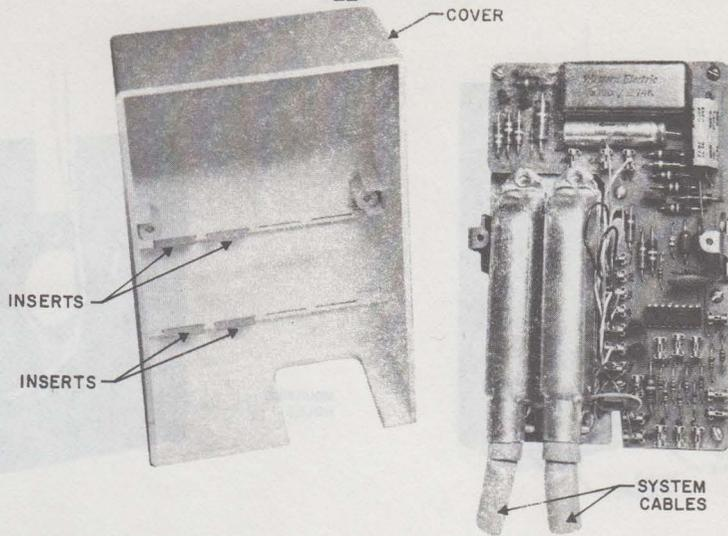

FIGURE 7. 26 A APPARATUS UNIT
- (1) Remove the cover and mount the base (Figures 7 and 8) assembly on the desired location (use appropriate fastener per BSP 080-720-105).
- (2) For connections, see paragraph 4.03.
- (3) Insert system cable (Figure 7).
- (4) Position inserts (Figure 7) inside cover to hold cables securely in place when cover is replaced.
- (5) Replace the cover.